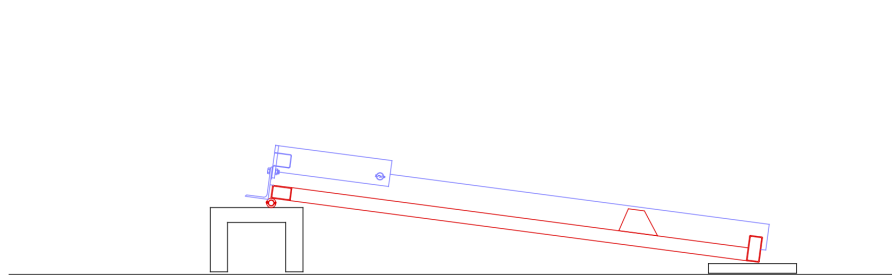
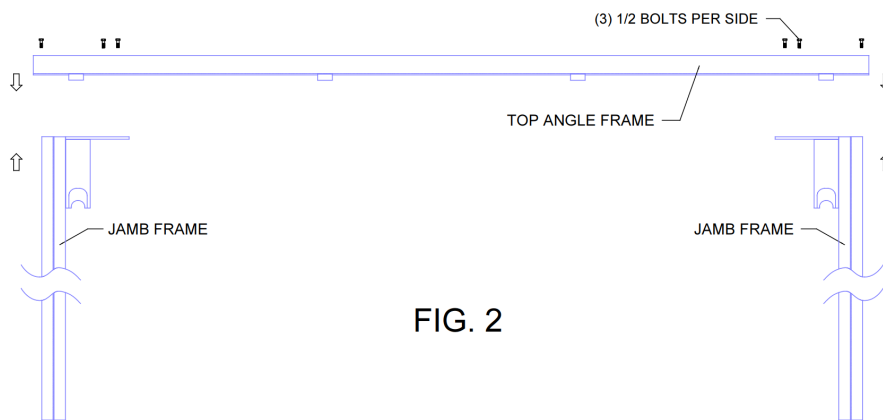

FIG. 1
FIG. 2
Lay out the door panel—"interior" or cylinder bracket side, face up—with bottom of door system toward the rough opening (see fig. 1); This is most easily accomplished on stands or blocks. Attach the top mounting angle frame to the door panel using the supplied hinge pins. Line up each side/jamb frame with the top angle frame and bolt together using the (3) supplied bolts, per side (see fig. 2).